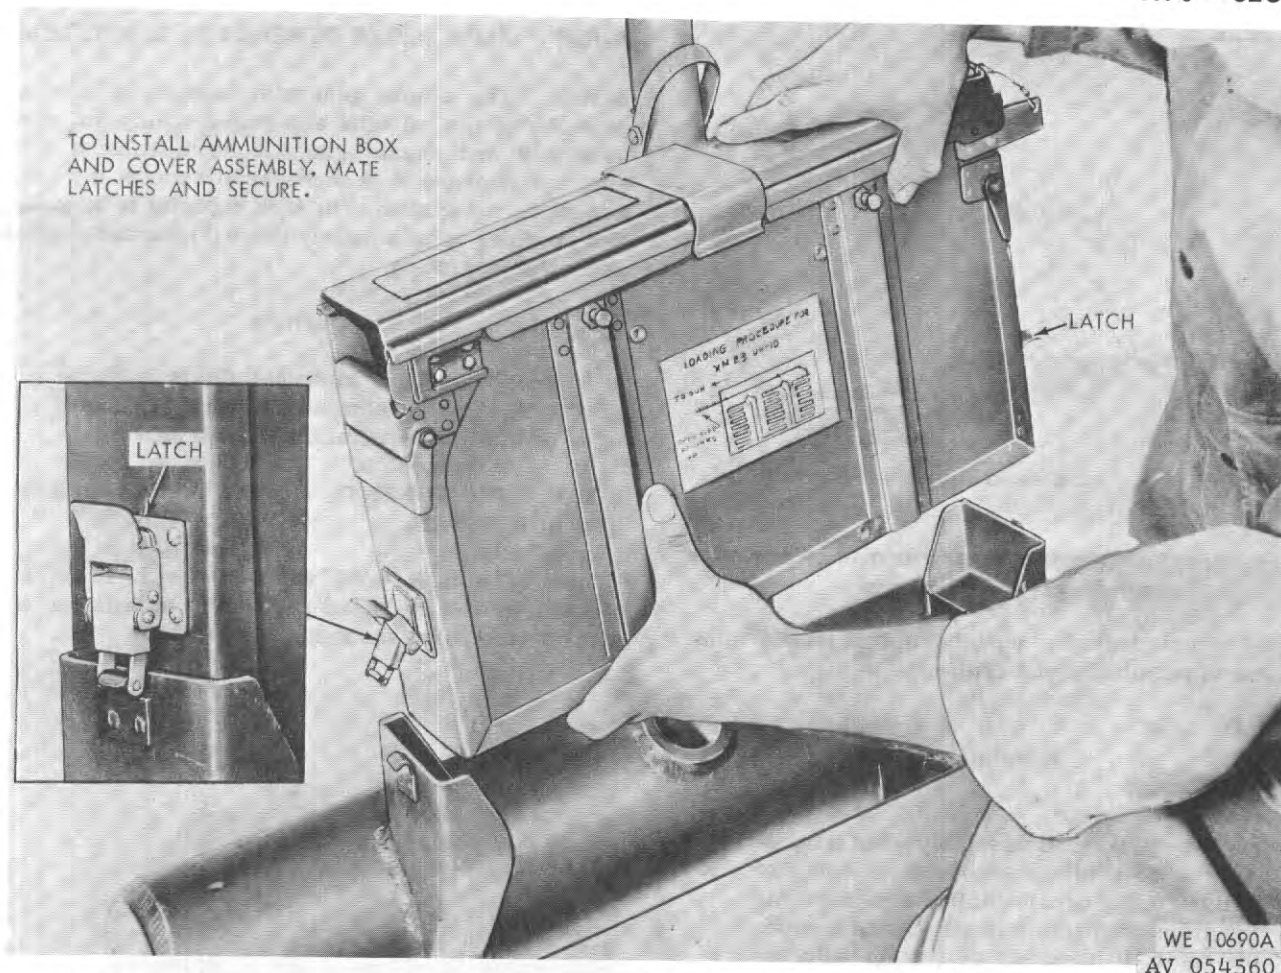

Figure 6-12. Installation or removal of ammunition box and cover assembly on tube assembly
f. Ammunition Box and Cover Assembly. Secured to ammunition box brackets on tube assembly (figure 6-12).